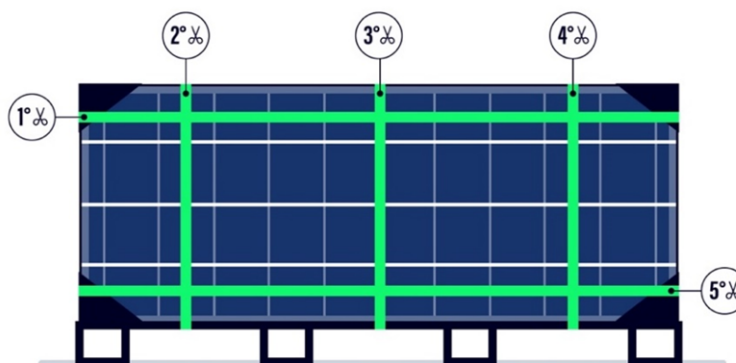

Figure 17: Positions of internal straps.
- c) Cut 4 of the internal straps. First cut strap #1 (Figure 17) the horizontal strap on the top, then cut straps #2, #3, #4, the vertical ones, in any order. Do not cut strap #5 until step e).